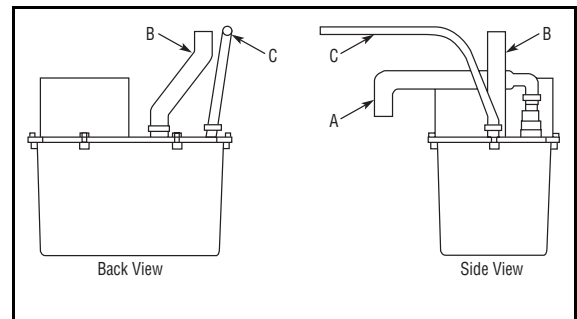

Figure 8
4. Check that the clamps and hose connections are tight at the following areas (Figure 8):
- Discharge tube (A)
- Drain tube (B)
- Vent tube (C)